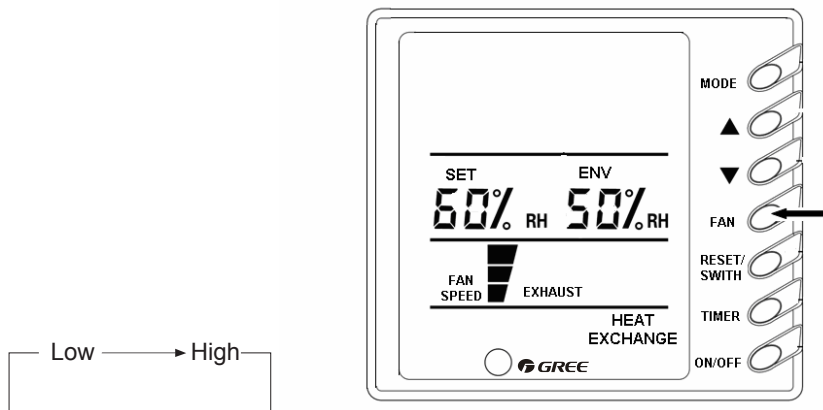

Fig.4
2. During air discharge and air supply, with each press of FAN button, the fan speed will switch between high speed and low speed(Fig.4).